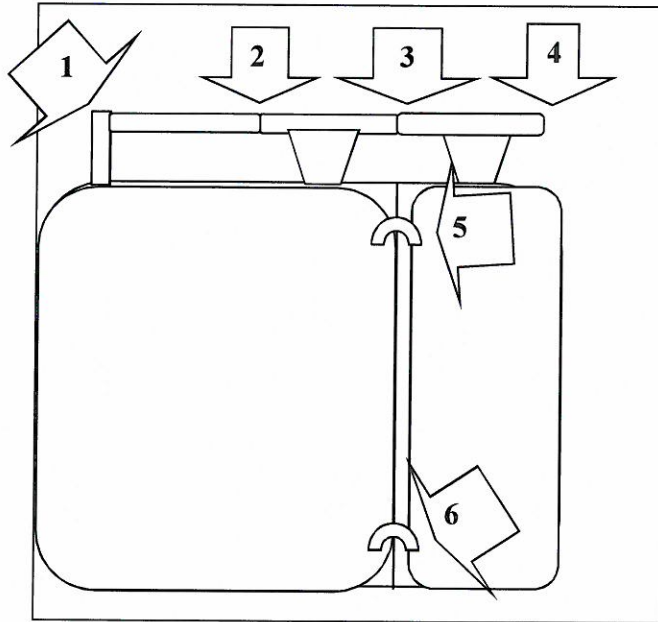

Figure 3 Pall Cryobag
- 8.12.6 Using the heat sealer, seal tubing to create 3 segments between the cryobag and the hard plastic connector (see Figure 3, see arrows 1, 2, 3, & 4).
- 8.12.8 Seals should be made at 90° to the top seam of the bag to allow the tubing to bend parallel to the freezer bag for proper storage. See Figure 3.
- 8.12.9 With the CBU cryobag still in the sealing jig, heat-seal the chambers between the 80% portion and 20% portion of the cryobag (see Figure 3, arrows 5 & 6).